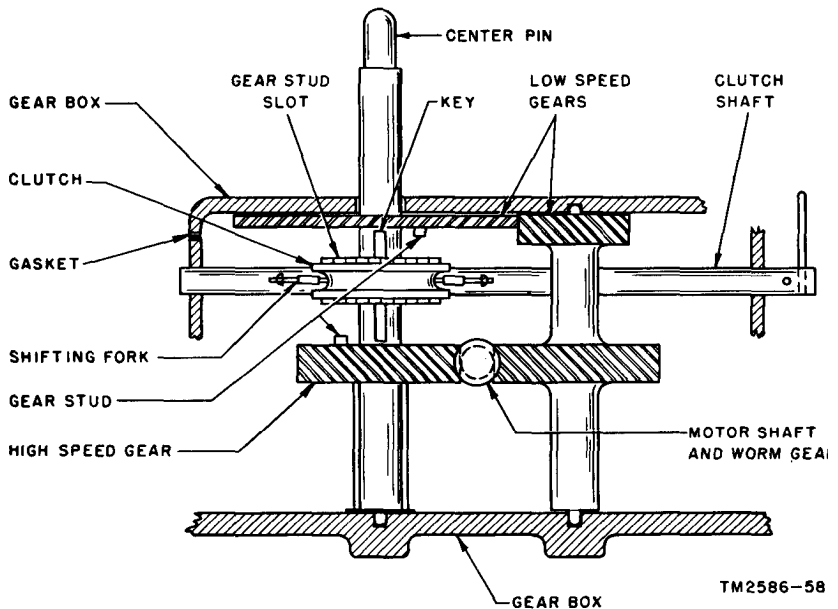

Figure 44. Gear box, cutaway view.
83. Operation at 78 Rpm (fig. 44)
84. Operation at 33 1/3 Rpm (fig. 44)